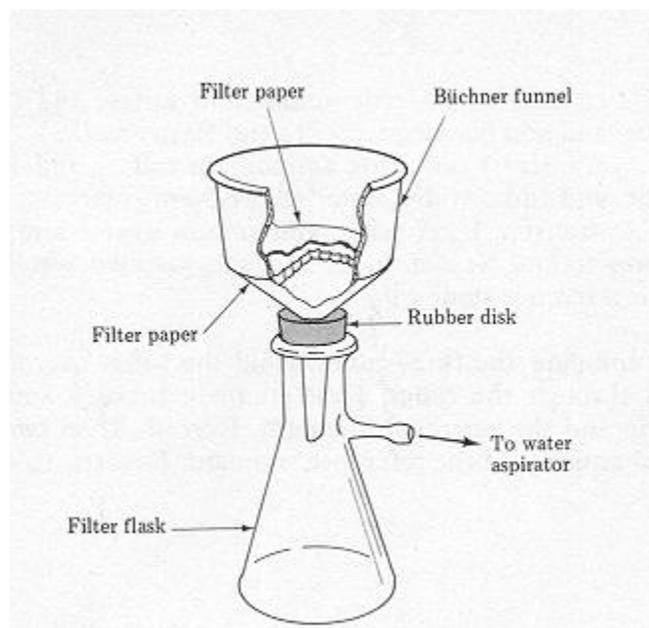

Figure 5.1: Apparatus for suction filtration
Büchner funnel, filter flask, filter paper (Fig 5.1)
3. Keep stirring for 30 min. Then, filter over a Büchner funnel, figure 5.1, and wash the precipitate, first with cold  $\sim 8\text{ M HNO}_2$ , then with cold water until the filtrate gets colorless.
5. Add 35 mL of distilled water, swirl the mixture and filter it using vacuum filtration (refer to figure 5.1)